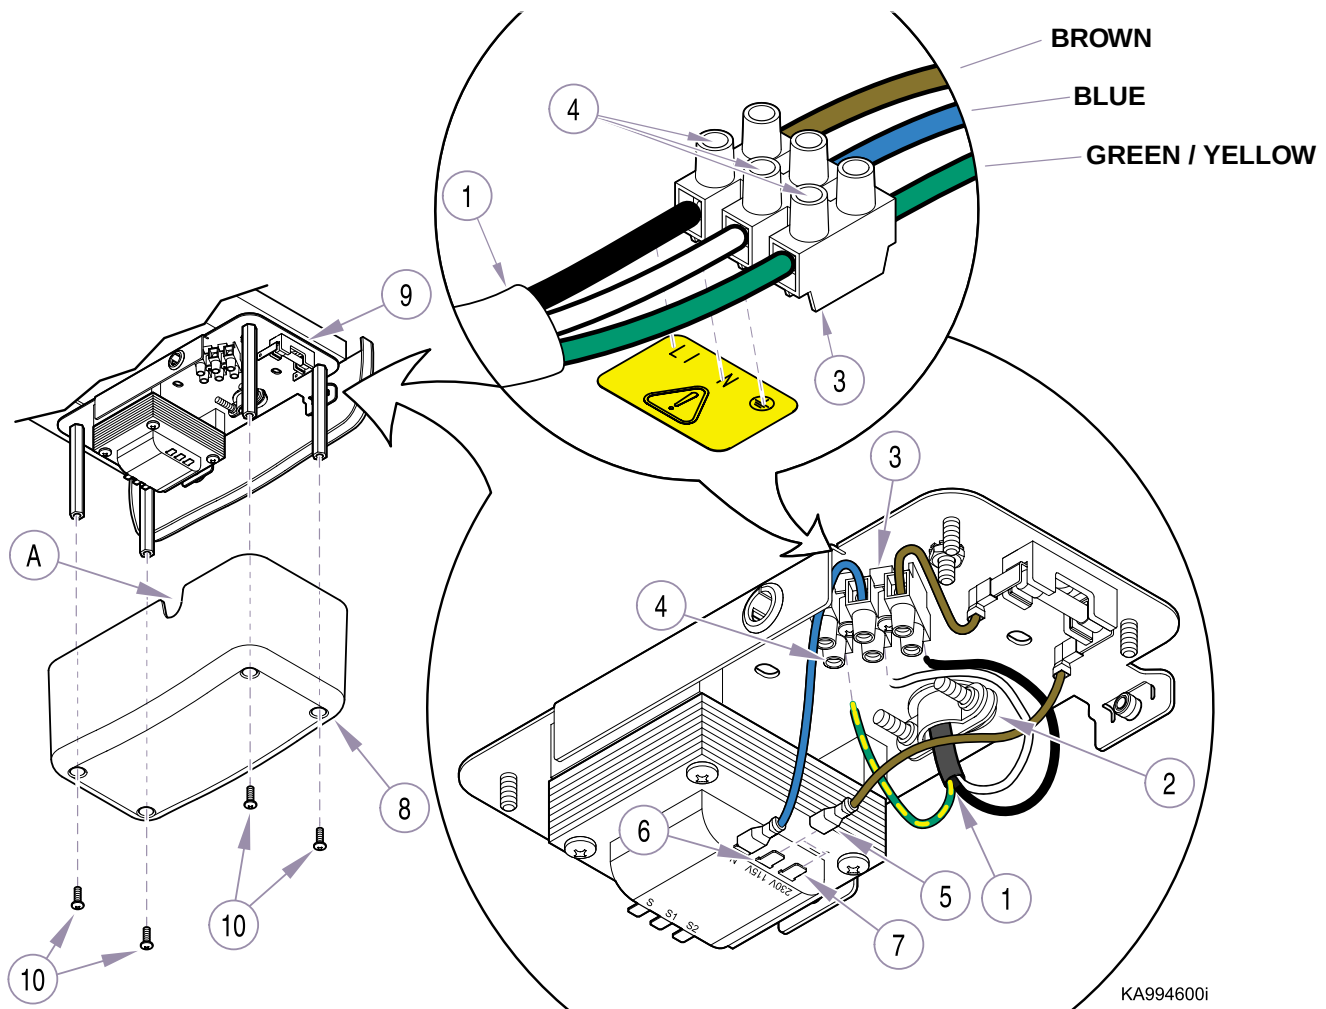

Figure 8. Wiring Connections
- (1)** If not already done, feed facility wiring (1, Figure 8) down thru wiring clamp (2).
- (2)** Connect three wires (1) [from facility] to three terminals of terminal block (3) and secure by tightening terminal screws (4) [see label near terminal block].
- (3)** Tighten two screws of wiring clamp (2) to secure wiring (1) in place.
- (4)** If track light unit is being powered by 115 VAC, no further connections need to be made. If track light unit is being powered by 230 VAC (nominal), disconnect wire (5) from transformer terminal (6) [115 VAC terminal] and reconnect to terminal (7) [230 VAC terminal].
- (5)** Install transformer cover (8) on base plate (9) and secure with four screws (10), making sure side of transformer cover with single wire cutout (A) is facing inward.